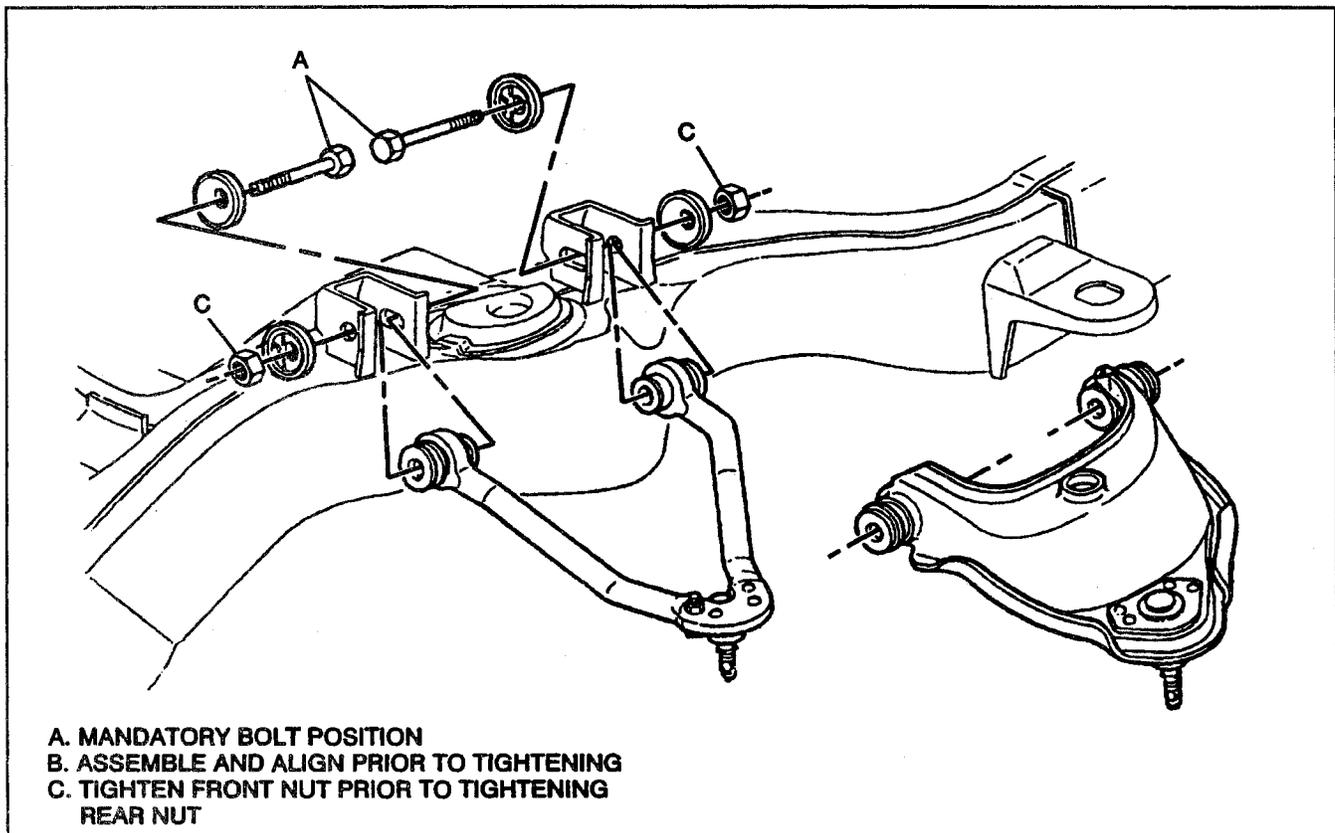

Figure 27—Installing the Upper Control Arm
- Refer to mandatory bolt direction (Figure 27).